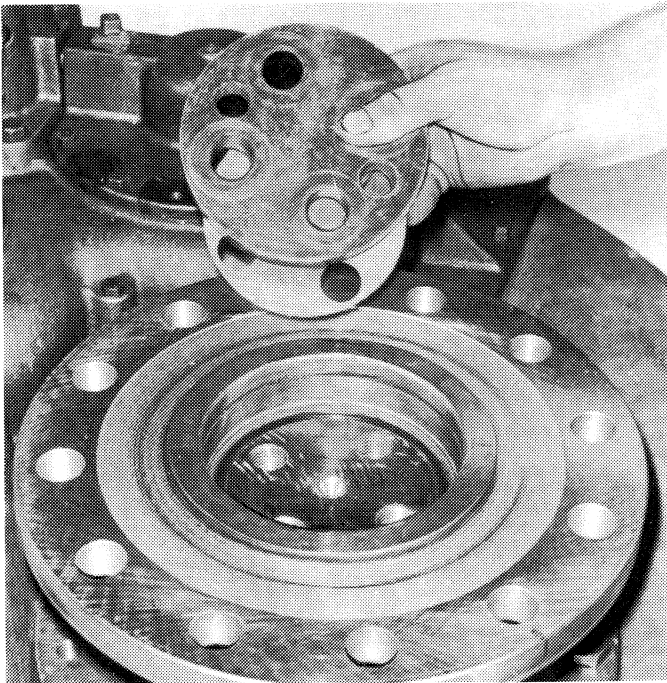

Figure 6-24. Retainer Washer and Shims Removed from Output Flange.
4. Remove the retainer washer and shims. See Figure 6-24.